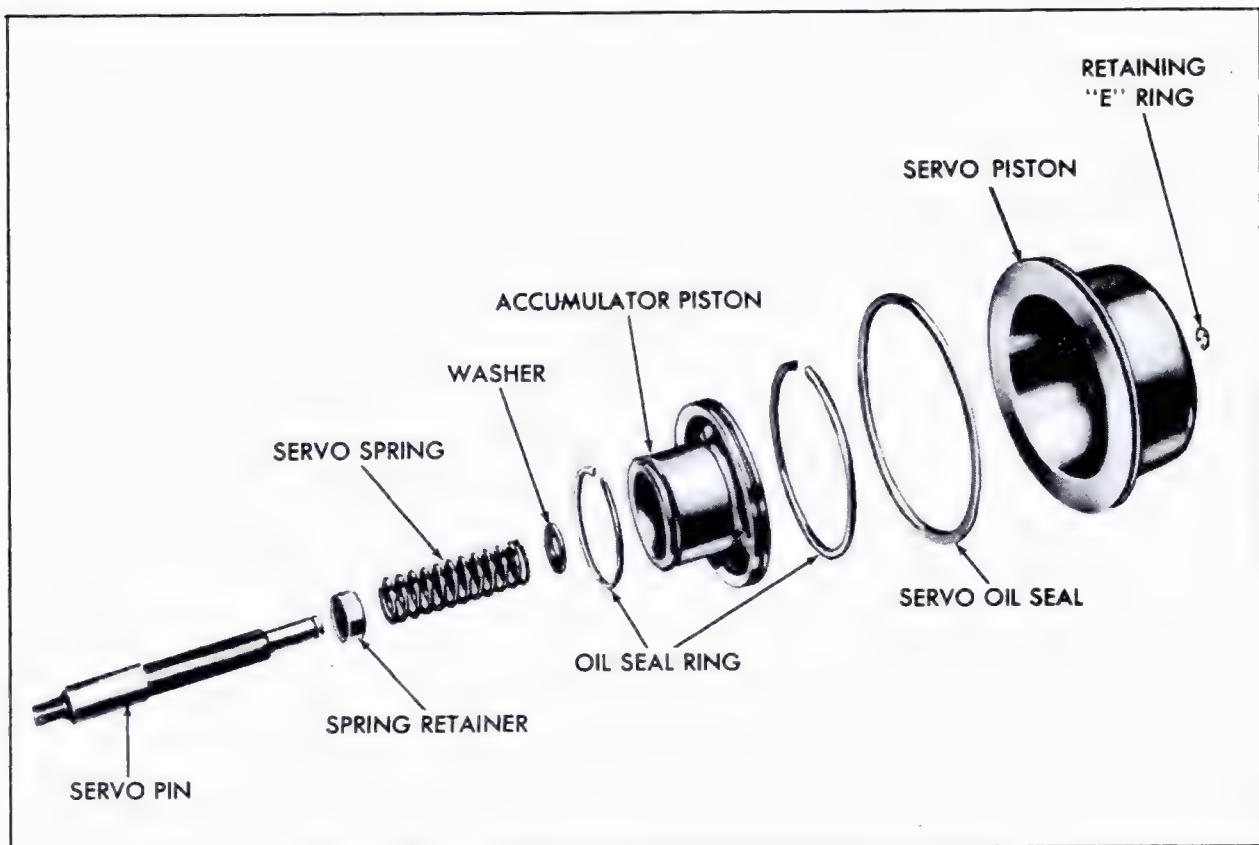

Fig. 7-216 Rear Servo and Accumulator Assembly Disassembled
3. Disassemble Rear Servo Assembly (Fig. 7-216)